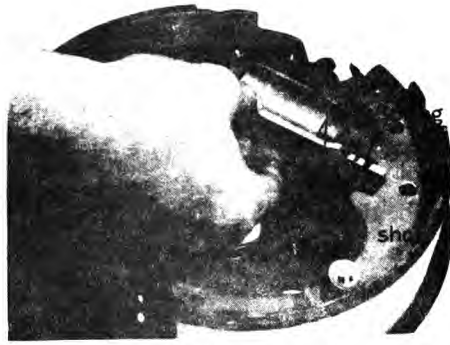

Fig. 5-14 Installing strut
- (f) As illustrated in Fig. 5-14, insert the parking brake strut between the two shoes. (Be careful of direction, position, and spring.)